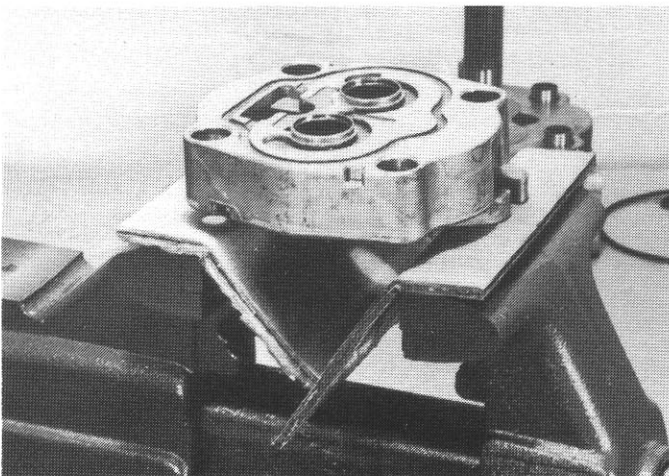

Fig. 3
6. Place flange plate in machinist vise. Use cardboard between jaws of vise and flange plate. (Fig. 3)